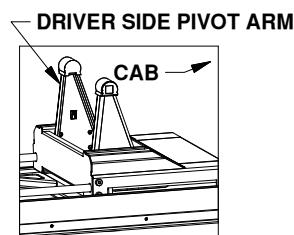
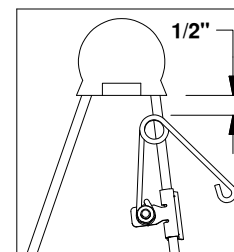

Figure D3: Base view.
Figure D4: Driver side pivot arm.
- Locate the flange which will be closest to the truck cab on the driver side pivot arm, see Figure D3. The clip should be placed so that when the spring's coil is in line with the edge of the arm there will be 1/2" of clearance between the bottom of the rubber bumper and the top of the spring, see Figure D4. Drive the clip securely onto the flange with a hammer.